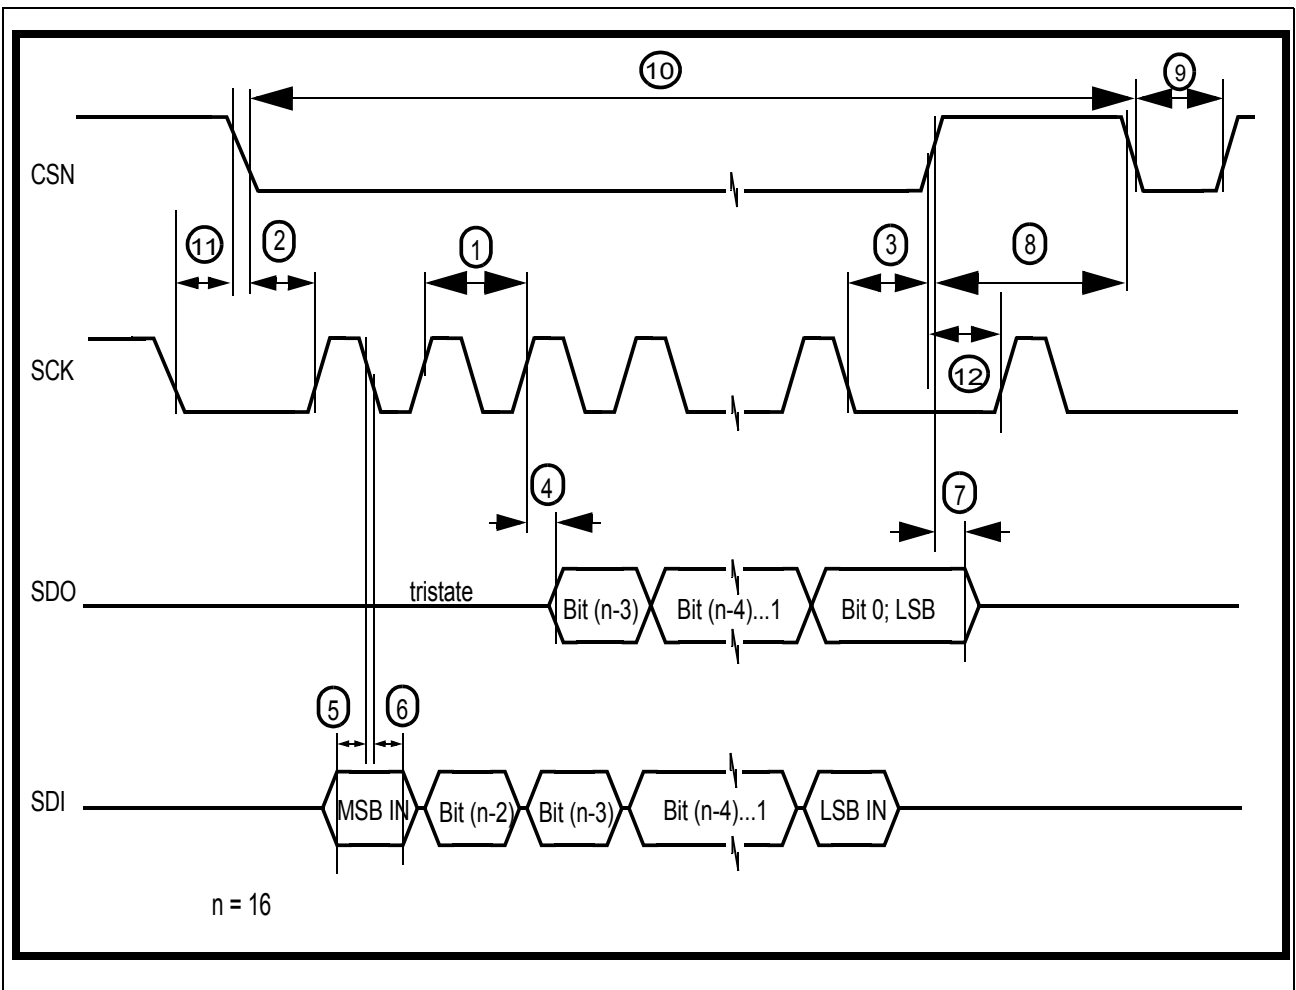

Figure 13 SPI-timing
**SPI Timing (see Figure 13)**
3.4.54	Cycle-Time (1)	$t_{\text{cyc}}$ (1)	200	–	–	ns	referred to master